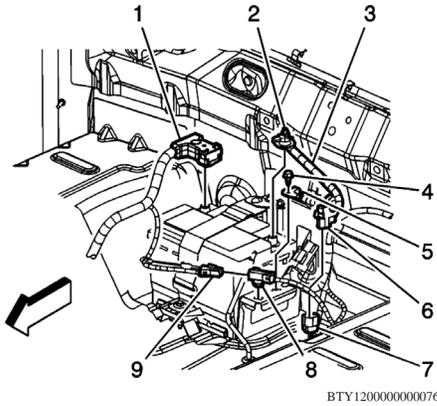

Fig. 2 Battery ground cable
11. Loosen battery ground cable (2) bolt, **Fig. 2**.